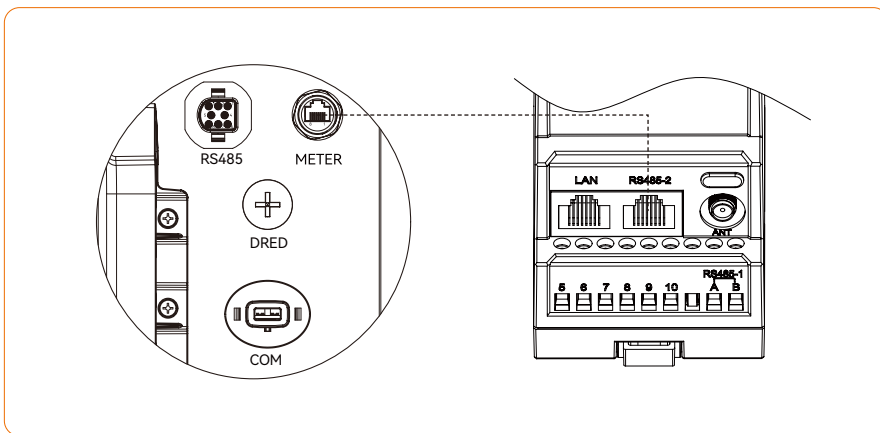

Figure 4-30
- ② Connect the opposite end of the Ethernet cable from meter RS485-2 to the inverter's Meter port. Refer to Figure 4-30.